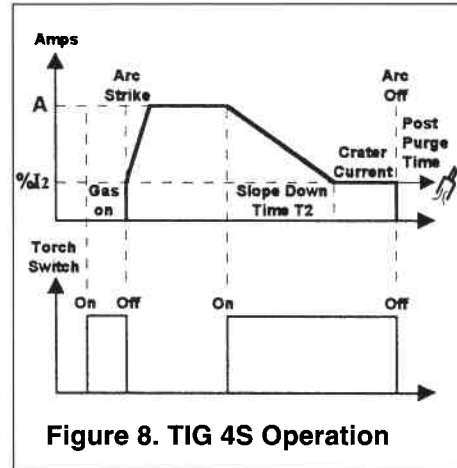

Figure 8. TIG 4S Operation
7. TIG Welding with 4 Stroke Torch Switch and HF Start, see Figure 8.